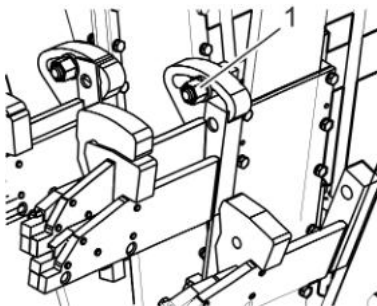

Fig. 105: Electrode carrier slide attachment
4. Loosen fastening screws (Fig. 105/1) and remove the electrode carrier slide.